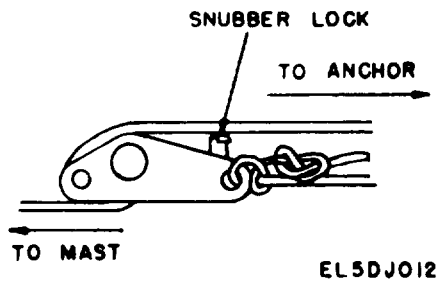

Figure 2-7 Removing guy from snubber lock.
(1) Remove guy from snubber lock (fig. 2-7).